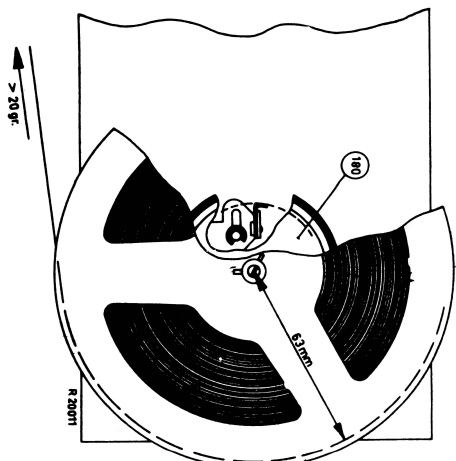

Fig. 10
**N.B.** Here the apparatus should also be in a rest position and the brake block of brake 100 should be between the lip of the brake bracket and the reel disc 180 (see figure 10).